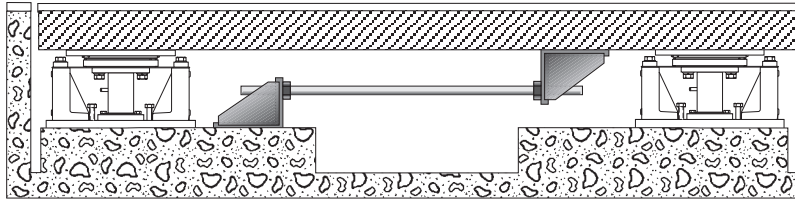

Figure 3.3 Check rod between foundation and scale deck I-beam (front view)
4. Check rods must be installed (see Figure 3.3 and 3.4). Consult the supervising engineer for proper placement and stability.
1. Install the check rods between each mount (Figure 3.3 and 3.4). These lateral restraints create a rigid mount system for heavy loading conditions. The check rods should be positioned as close to each mount as possible. The rod should be at least 4' to 6' long. Spherical washers should be used with each nut.